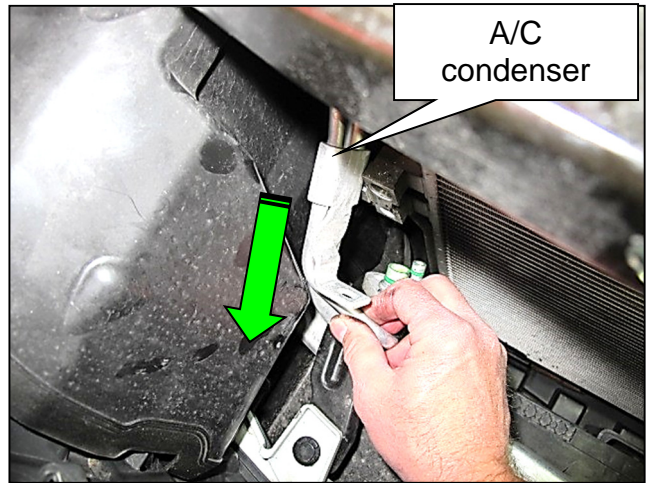

Figure 17
- a. Pull the A/C condenser pipe forward, halfway through the radiator core support (Figure 17).